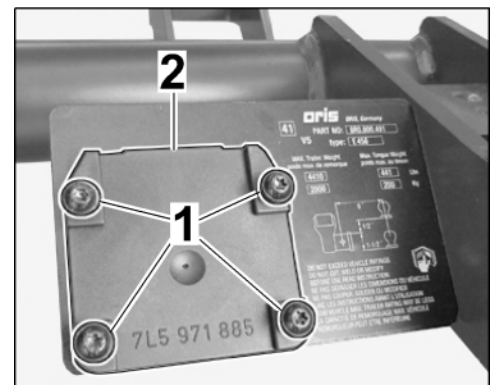

Figure 16
3.2 **ONLY USA, Puerto Rico:** Mount cap with four screws M5 x 16 onto holder plate of towbar system (⇒ *Figure 16*).